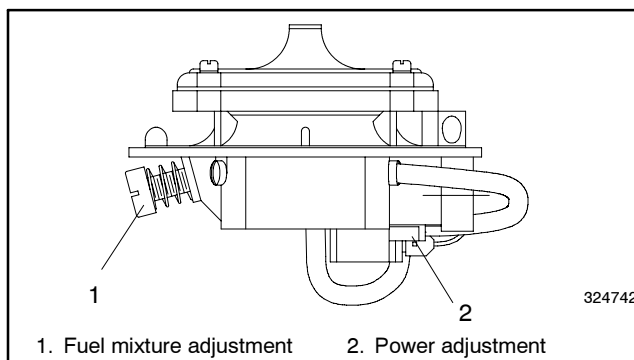

Figure 7-46 30–80 kW with Nolf NCA-225M and NCA-125M Style Fuel Mixers
- b. **30–80 kW generator sets.** Nolf NCA-225M and NCA-125M style gas mixers used on early versions of 30–60 kW 4.3 L and 5.7 L GM engines, 30–60 kW LP liquid withdrawal systems, and 80 kW 8.1 L GM engines. See Figure 7-46.
- Adjust the fuel mixture adjustment (Figure 7-46) to obtain a full load oxygen sensor voltage reading in the range specified in Figure 7-40.